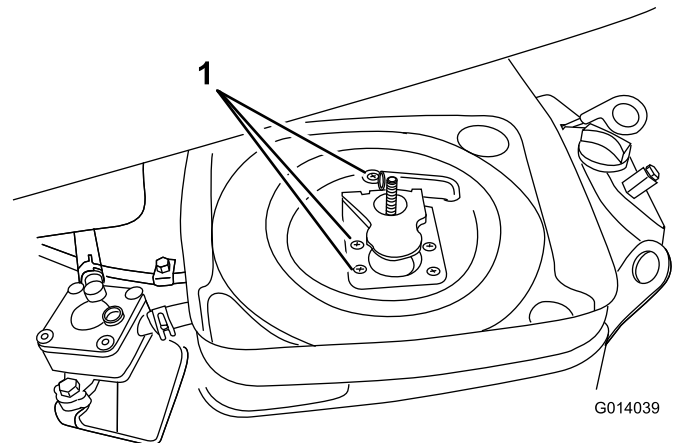

Figure 2
3. Remove the 5 existing bolts holding the air cleaner body to the carburetor (Figure 2).